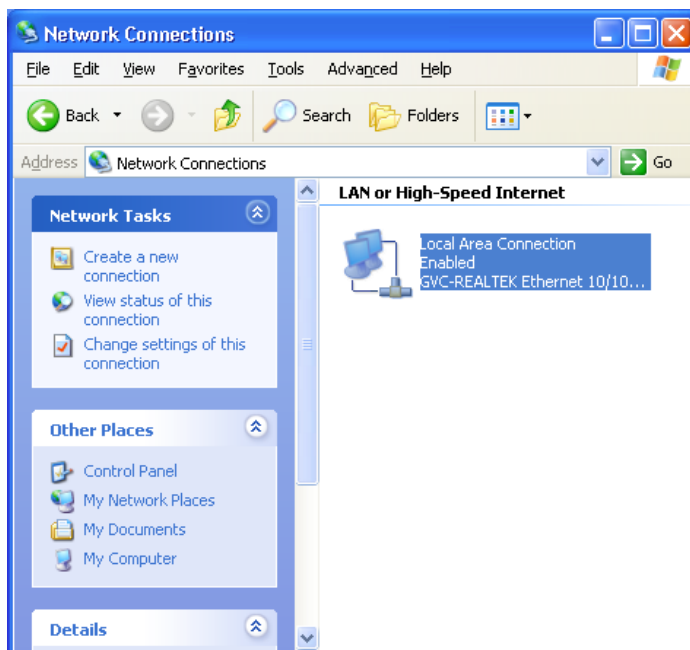

Figure 3. The Network Dialog
1. Open the Windows Control Panel and double-click the **Network and Internet Connections** icon. The **Network Connections** dialog box appears, as shown in Figure 3.